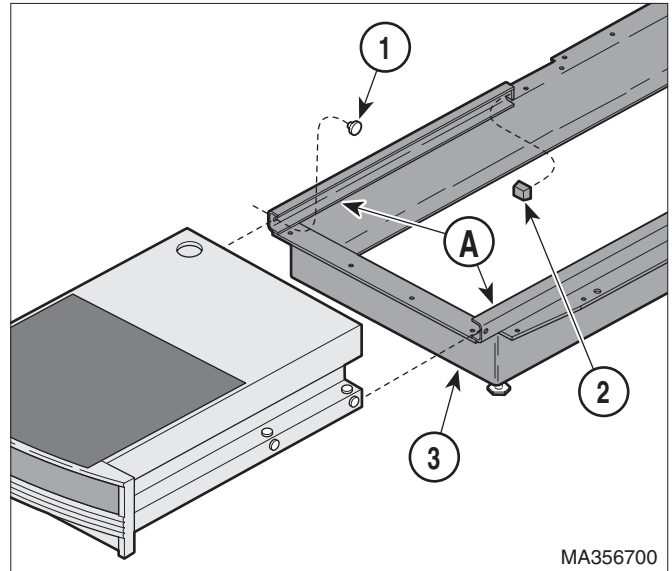

Figure 4-5. Drawer Front Replacement
- (8) Inspect the nylon stem bumpers (9) on the step weldment (5) and replace if worn.
- (9) Inspect the nylon stem bumpers (1, Figure 4-5) and bumper stops (2) on the runners (A) of the base weldment (3) and replace if necessary.